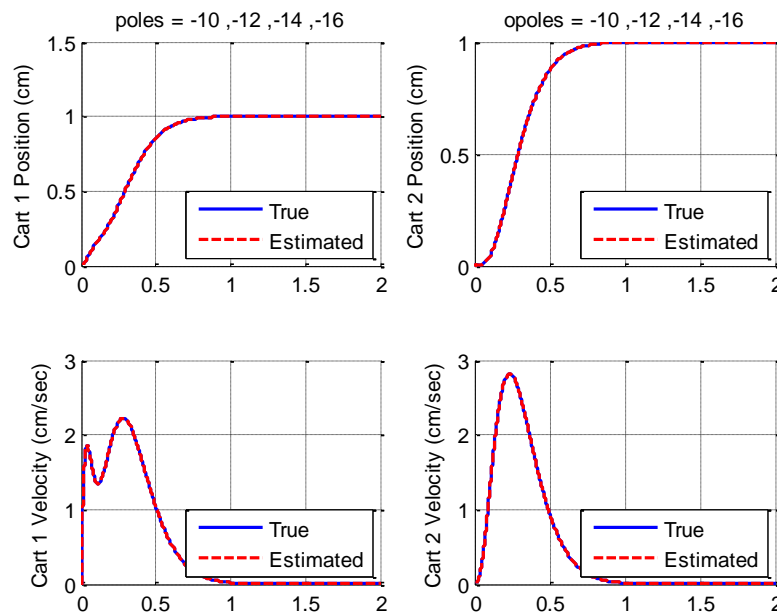

Figure 13: Full order observer for a 2DOF system
3. Copy your program **Basic_2dof_State_Variable_Model_driver.m** to the Lab 10 folder and rename it, **sv2_observer_driver.m**. Modify **sv2_observer_driver.m** to implement state variable feedback using integral control. This includes loading the **state_model_2dof_rect** and setting the C matrix to read the cart 2 position and also setting Cy to track the cart 2 position. Adding the code to find the observer feedback gains and set the initial conditions to zero. The prefilter gain should also be set to $G_{pf} = -1 / (C_y * \text{inv}(A - B * K) * B) ;$. Make sure to change the simulation to run **sv2_observer**. Finally, modify **sv2_observer_driver.m** to plot each of the true and estimated states on the same graph. See Figure 13 for an example.
4. For an input of 1 cm and a final time of 2.0 seconds, set both the state feedback and observer poles to $p = [-10, -12, -14, -16]$ with the input to the observer the position of the second cart. You should get a graph like that in Figure 13.